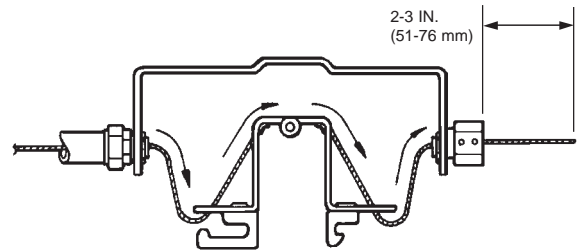

FIGURE 24
4. Before continuing on past the detector bracket, feed the wire rope through the detector linkage assembly. See Figure 24.
6. At the terminal detector, feed wire rope through the terminal detector clamping device. Allow 2-3 in. (51-76 mm) of wire rope to extend beyond the clamping device and wrench tighten the set screws. See Figure 24.